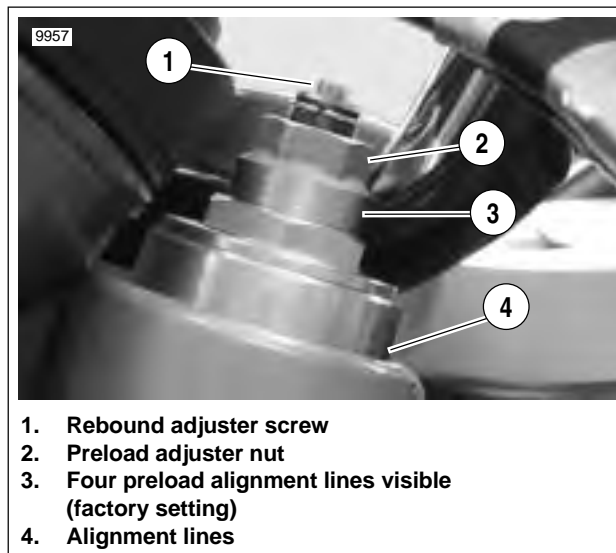

Figure 2-71. Front Fork Preload And Rebound Adjuster
4. See Figure 2-71. Position fork with alignment lines (4) visible and reflector facing to the side and tighten the lower fork clamp.
9. See Figure 2-71. Position both forks with same number alignment lines (4) visible and reflectors facing to the sides. Do not tighten.